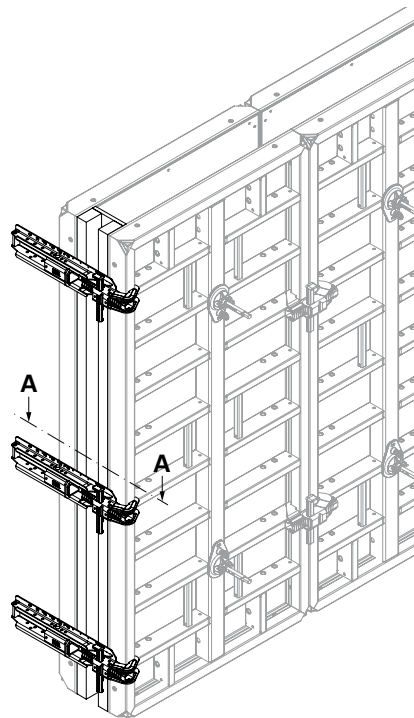

Fig. B10.01
- Perm. fresh concrete pressure 80 kN/m² (Fig. B10.01 + B10.01b)